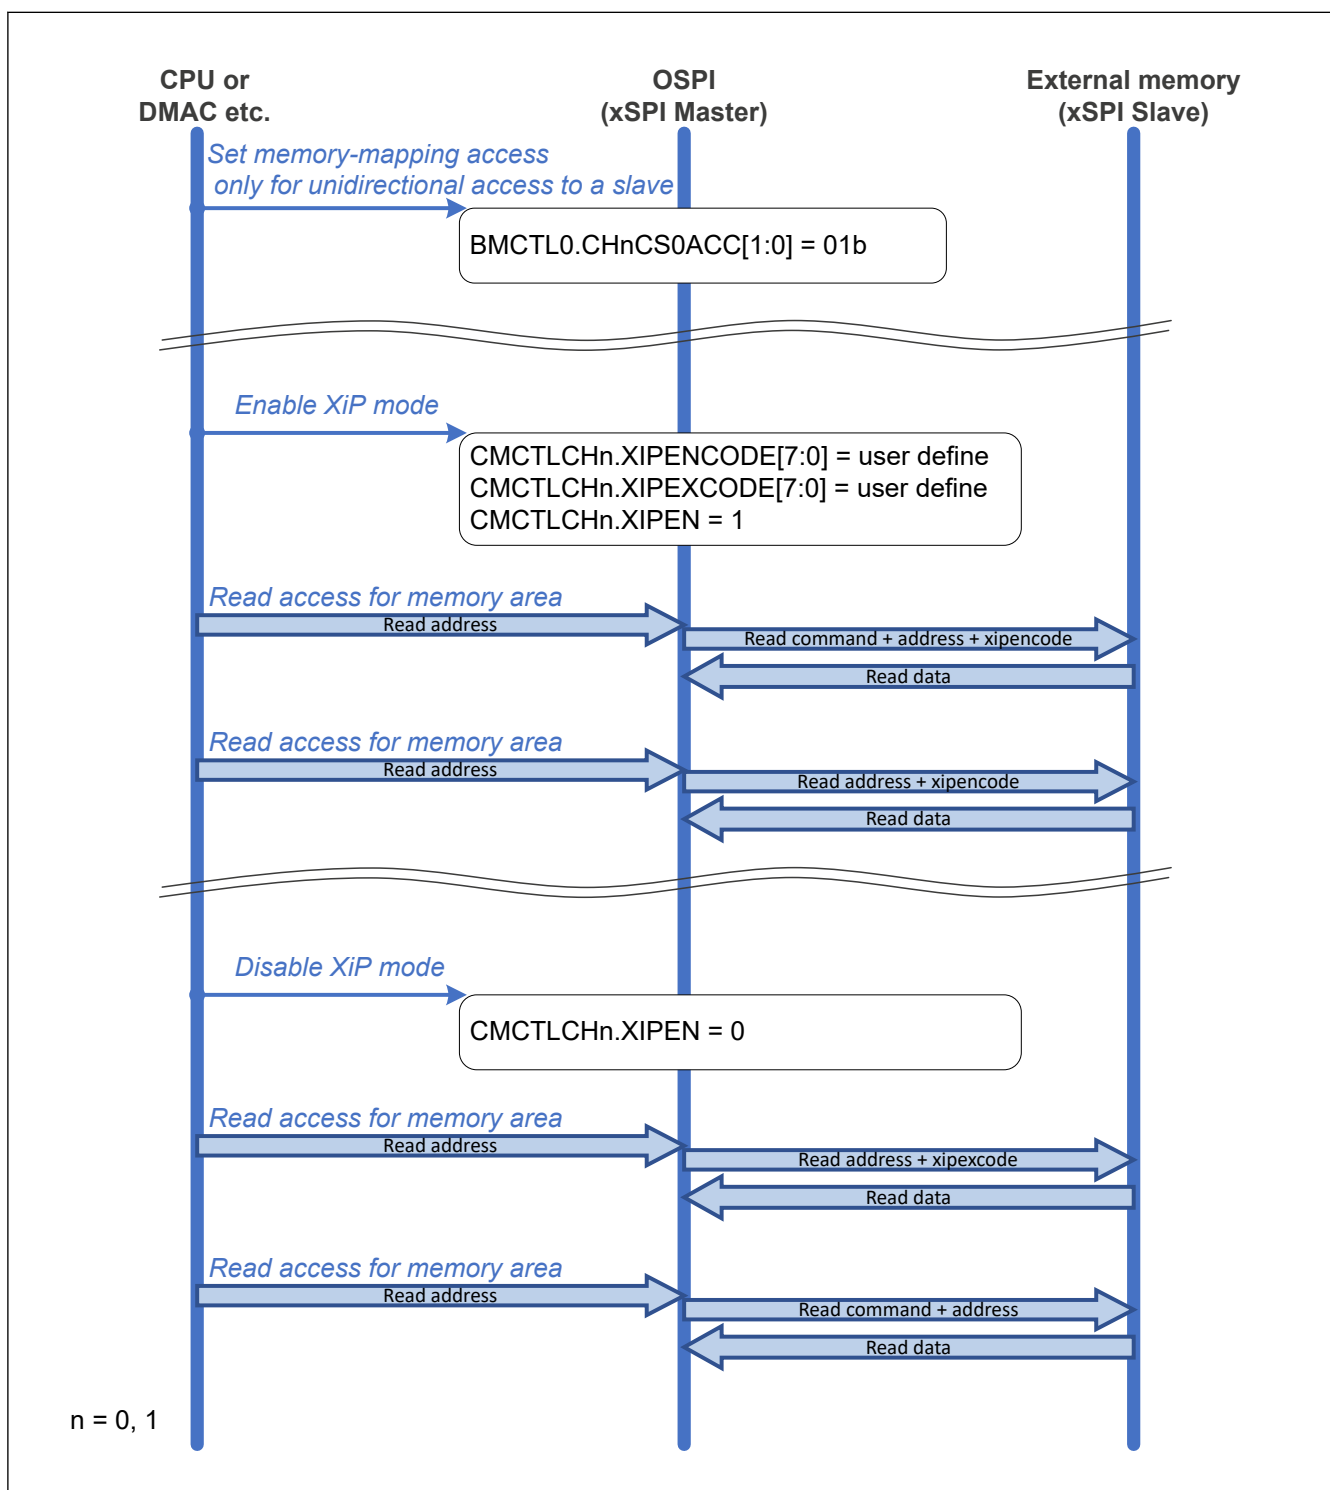

Figure 37.30 Flow of XiP mode enable/disable
- Note:** The XiP exit code is inserted once when disabled. More details, See Figure 37.30.
Figure 37.30 shows flow of XiP mode enable/disable.